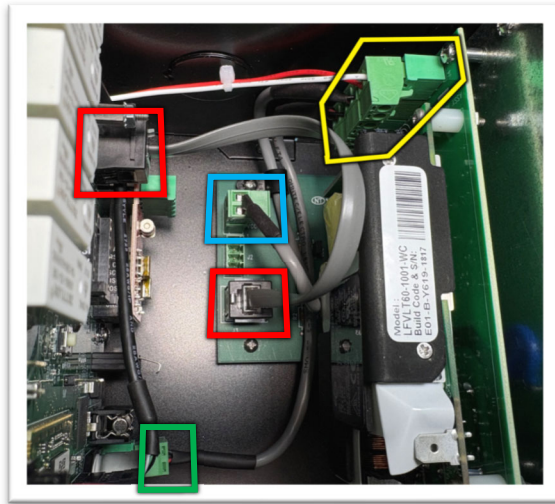

Figure 2.26
- 43) Plug the gray power cable connector, coming from the bottom of the MCU (see Figure 2.20; green), into the **back-most connector** of the power supply. (See Figure 2.26; yellow)
- 44) Plug the gray power cable connector from the backplane (see Figure 2.26; blue), into the **middle connector** of the power supply. (See Figure 2.26; yellow)
- 45) Plug the red/white printer power cable into the **front-most connector** of the power supply. (See Figure 2.26; yellow)
- 46) Plug the gray cable into the backplane and its other end into the MCU. (See Figure 2.26; red)